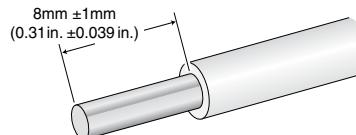

Figure 16 Stripped Wire
4. With a 22-gauge wire-stripping tool, strip the three wires in the tray cable coming from the DC input power source to $8\text{mm} \pm 1\text{mm}$ (0.31in. \pm 0.039in.), as shown in Figure 16 on page 29.